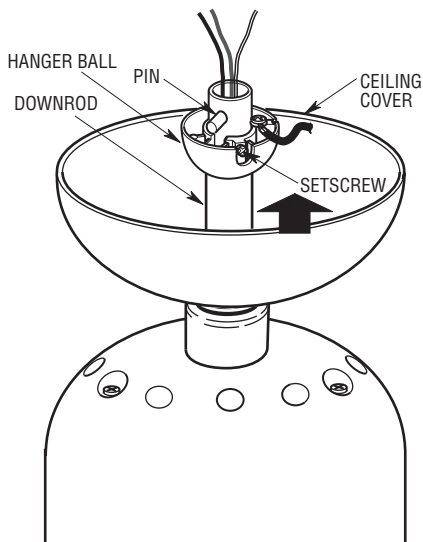

**Figure 9**
- 16. Make sure the grommet is properly installed in the coupling cover then slide the coupling cover over the downrod until it rests on the motor housing cover. Place the ceiling cover over the downrod. Be sure both the ceiling cover and the coupler are oriented correctly (Figure 9).